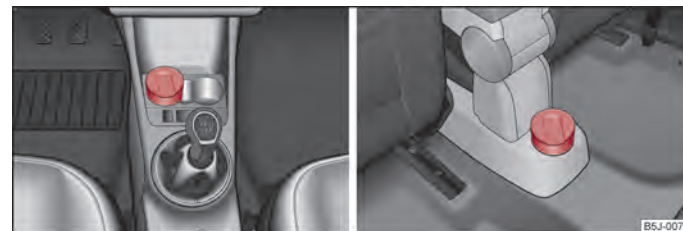

Fig. 60 Centre console: Ashtray at the front/rear
- Remove the ashtray ⇒ fig. 60 upwards. When removing do not hold the ashtray at the cover - risk of breakage.